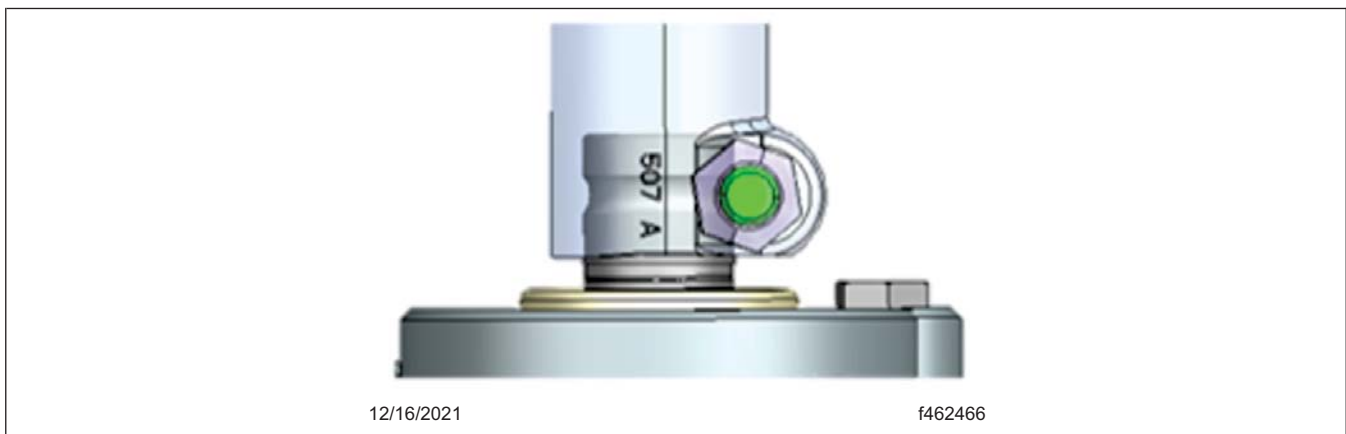
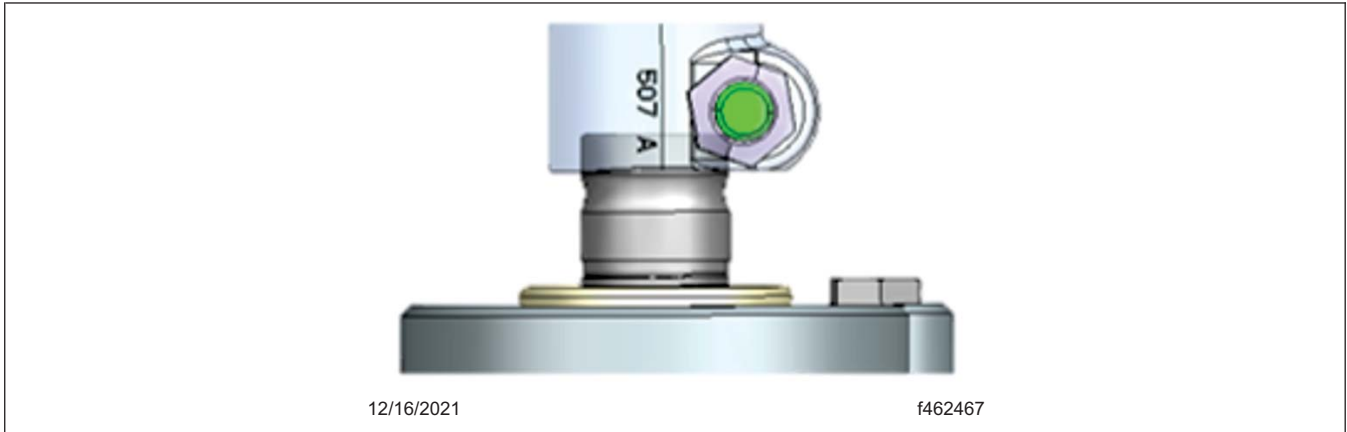

Fig. 1, I-shaft Installed Properly
Fig. 2, I-shaft is Lifted or Displaced
5. Inspect the I-shaft to ensure it is seated all the way down to the steering gear. For correct installation, see Fig. 1. For incorrect installation, see Fig. 2.